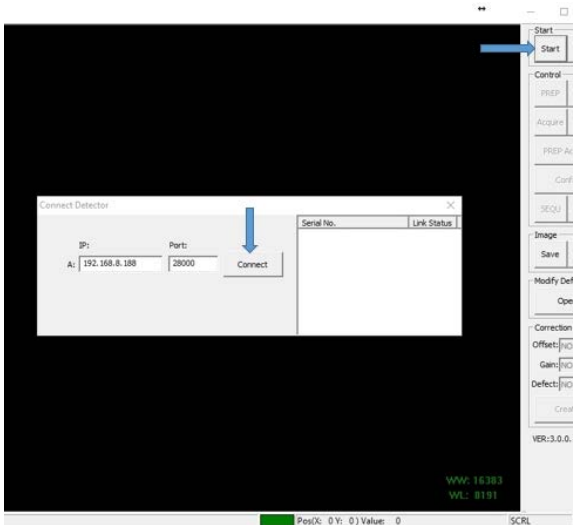

Figure 8: iDemo Connect Detector
6. In the Connect Detector box, click **Connect** (Figure 8).